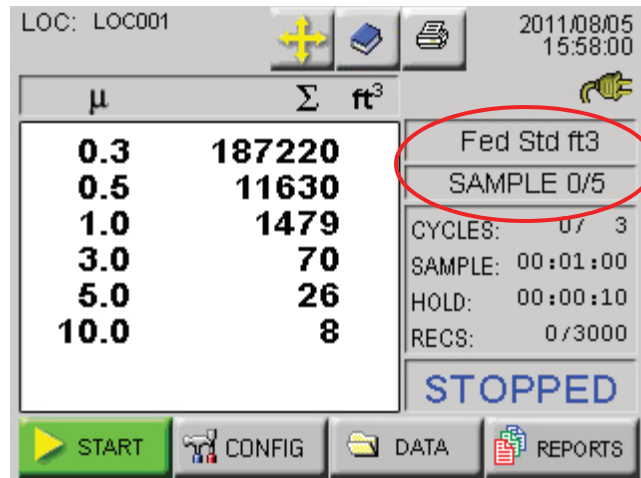

Figure 6-81 Reports Data
- When the reports mode is enabled, the currently selected report type and minimum required samples will be displayed on the MAIN screen as shown in Figure 6-81.